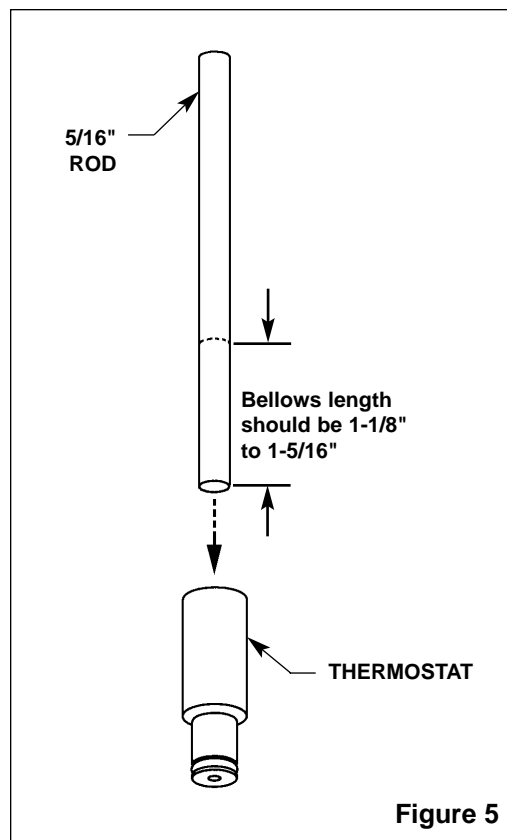

Figure 5
2. Insert a 5/16" dia. rod into the thermostat bellows. Mark the length of the rod inside the bellows (see Figure 5).
3. Use a marking pen to mark the thermostat bellows length (at room temperature, with 10 lb. of force, the bellows length should be approximately 1-1/8" to 1-5/16") (see Figure 5).